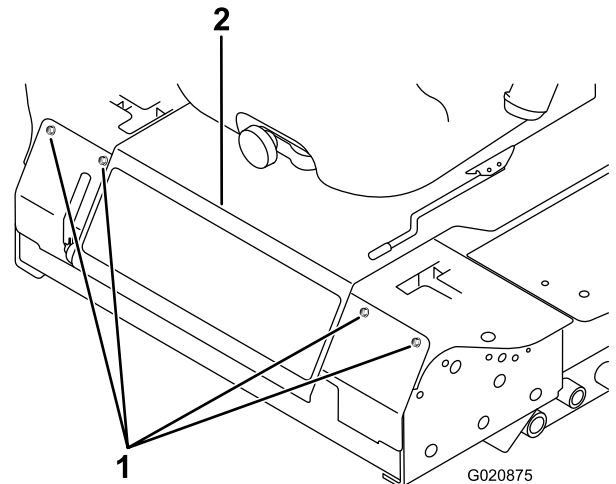

Figure 53
2. Remove the bolts securing the front panel and remove the panel (Figure 53).